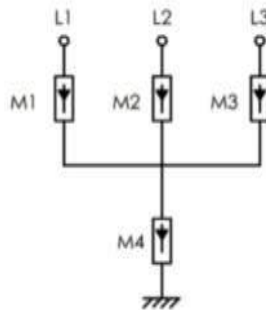

Fig. 4-27 LV side winding of the transformer
- Surge protective devices (SPD) for the AC combiner box and on the LV side of the transformer are recommended to be connected in the "3+1" manner, as shown in the figure below (Fig. 4-27). The Min. continuous operating voltages of M1-M4 are 750 Vac.